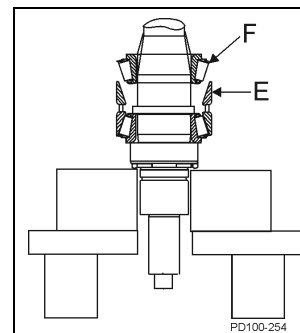

Figure 49 - Install Upper Cup & Upper Cone
7. Place upper cup (Figure 49, item E) on top of outer spacer.
8. Lubricate remaining upper cone and roller assembly (Figure 49, item F) with oil or grease and slip over shaft with roller radius up. Press onto shaft and into upper cup.